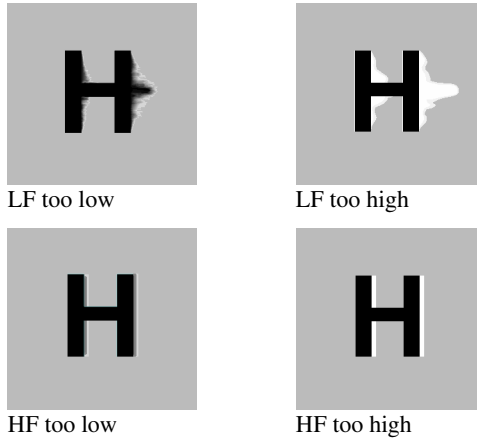

Figure 7 Problems with smearing and sharpness requiring LF and HF adjustment
8. Optionally, fine-tune the LF equalization to remove ‘black video smearing’ - black smears to the right of large objects such as window title bars (see Figure 7).
9. Optionally, fine-tune the HF equalization to sharpen the video image. Increase HF Equalization until a white edge to the right of small characters just starts to appear (see Figure 7).